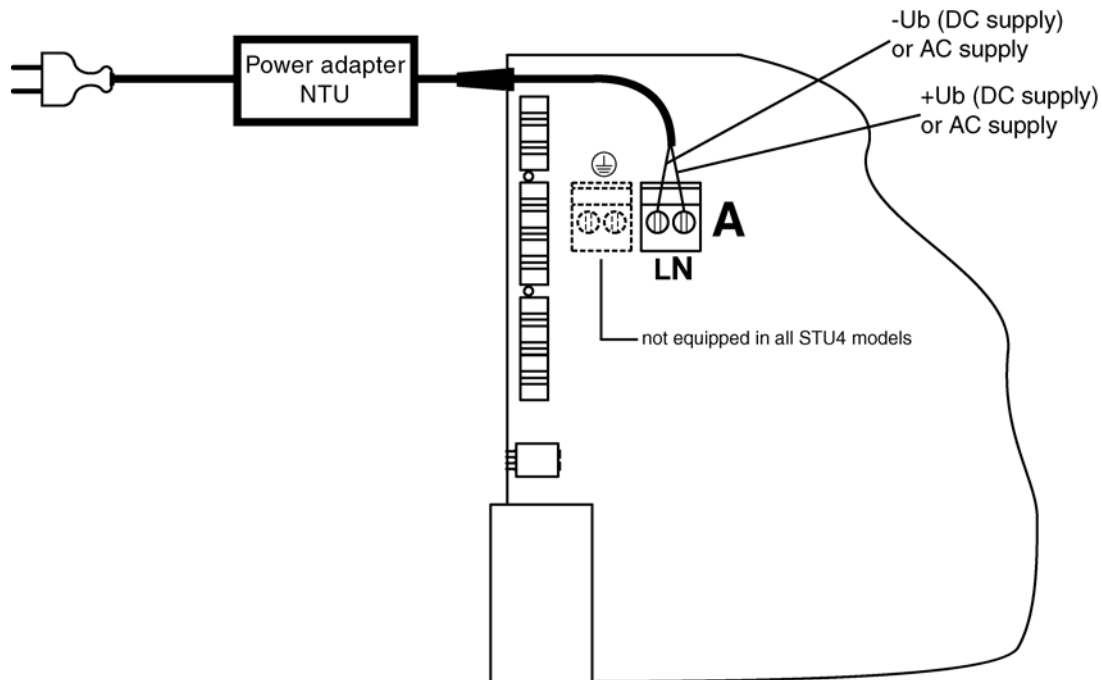

Fig. 2.156 Connecting desktop power adapter NTU
7. Connect the desktop power adapter according to Fig. 2.156 (**Warning:** You must not bend the board)